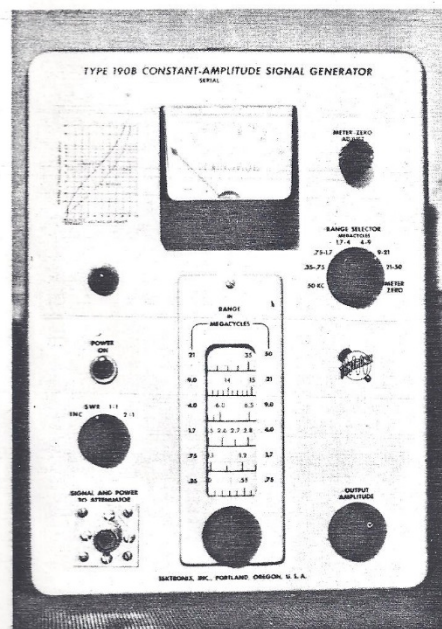

Fig. 1. Completed vswr bridge using modified Tek 190B generator.
2. Drill a 5/16-inch-diameter hole midway between the power switch and the SO-239 rf connector. Refer to Fig. 1. This hole will be for the vswr function switch. (See schematic for parts list.)